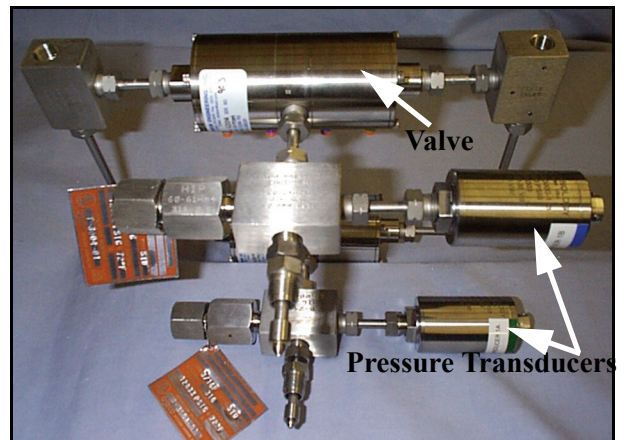

Figure 2-21
3. Install the tubing from the pressure transducer into the lower left hole at the end of the cylinder barrel. See Figure 2-21. For ambient temperature systems, mount the transducer to the side of the cylinder barrel. For high temperature systems, the transducer must be placed outside the oven if the temperature will exceed 80 degrees C.